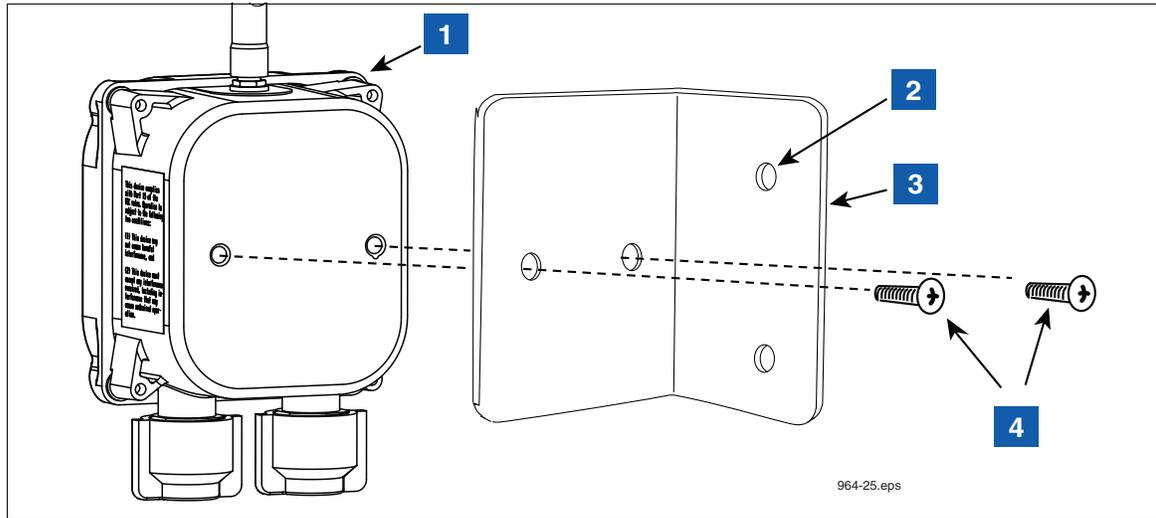

Figure 17. Attaching mounting bracket to Receiver or Repeater
1. One Receiver is required per site and it is mounted in the vertical position (antenna up) on the outer wall of the same building housing the TLS RF. The Receiver is attached to its mounting bracket with #10 x 1/2" taptite screws from its install kit (see Figure 17). The L-bracket is then mounted on the outer wall of the building using appropriate fasteners (customer supplied). If the Receiver will be exposed to the weather, attach the L-bracket to the mounting surface inside a weatherproof enclosure. This enclosure is not required when mounting the Receiver under a roof overhang and shielded from the weather.
LEGEND FOR NUMBERED BOXES IN Figure 17
2. The Repeater is attached to its mounting bracket with #10 x 1/2" taptite screws from its install kit (ref. Figure 17 on page 24). The L-bracket is then attached to the outer wall of the building using appropriate fasteners (customer supplied). If the Repeater will be exposed to the weather, attach the L-bracket to the mounting surface inside a weatherproof enclosure. This enclosure is not required when mounting the Repeater under a roof overhang and shielded from the weather.